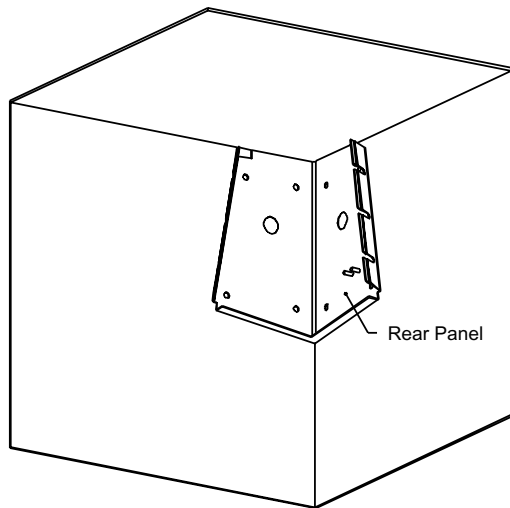

Figure 5: Positioning the Rear Panel
1. Position the rear panel in the corner against the walls and ceiling. **See Figure 5.**